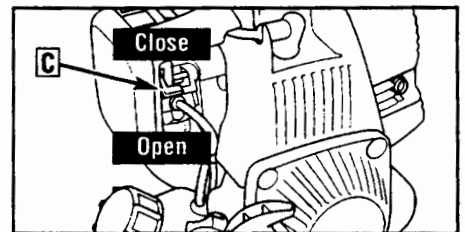

Figure 5: Choke lever.
Engine Choke (Section 4, Figure 5)
2. To start a cold engine, move the choke lever (C, Figure 5) to the CLOSED position. To restart a warm engine, leave the choke lever in the OPEN position.